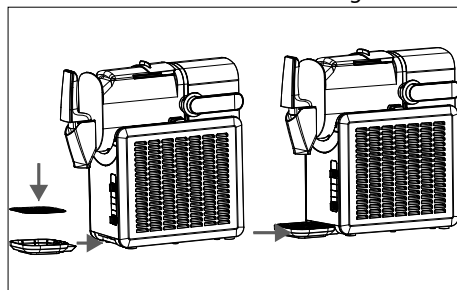

Fig. 4 – Assembling the appliance
- ▶ Place the drip grate on the collection tray and slide the collection tray under the appliance until it clicks into place (**see Fig. 4**).